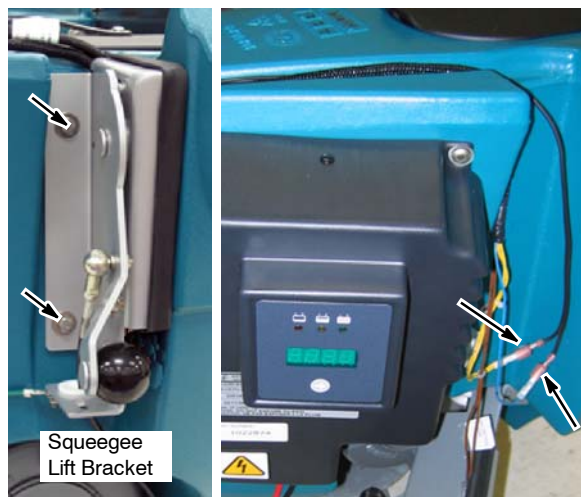

Fig. 4
8. With the squeegee lift bracket removed, connect the two black charger wires into the yellow/4A/4B and blue/26 wire terminals (Figure 4). Re-attach squeegee lift bracket to machine.